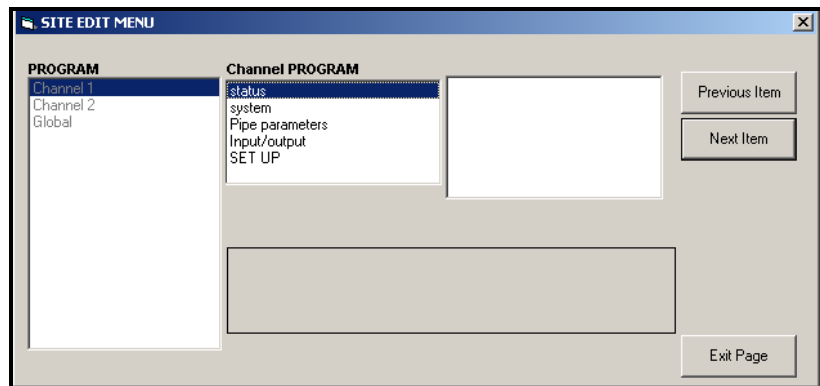

Figure C-10: The *Site Edit Menu* Window
3. To enter data into the user program, double-click on the *Site Edit Menu*. The window appears similar to Figure C-10 below.
PanaView returns to the Channel PROGRAM menu shown in Figure C-10 on page C-9. Proceed to the System option.
- If you are not using Mass Flow, PanaView returns to the Channel PROGRAM window shown in Figure C-10 on page C-9. Proceed to the Pipe option.
PanaView returns to the Channel PROGRAM window shown in Figure C-10 on page C-9. Proceed to the Pipe option on the next page.